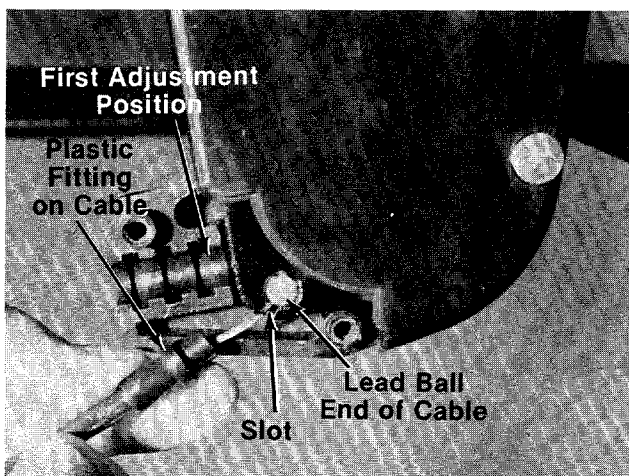

FIGURE 8.
15. The drive clutch control cable is attached to the deck. Place the lead ball end of the cable into the fitting provided in the end of the clutch control lever. Slip the wire into the slot as shown in figure 8.
16. Place the plastic fitting on the control cable into the first adjustment position on the clutch control housing. See figure 8.